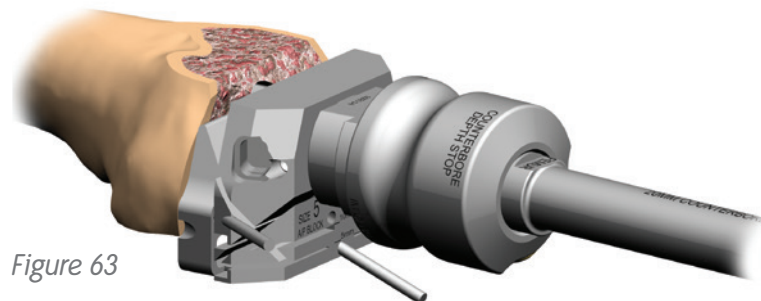

Figure 63
14. Insert the Counterbore Reamer Assembly into the guide bushing and ream until the depth stop makes contact with the guide bushing (Figure 63).